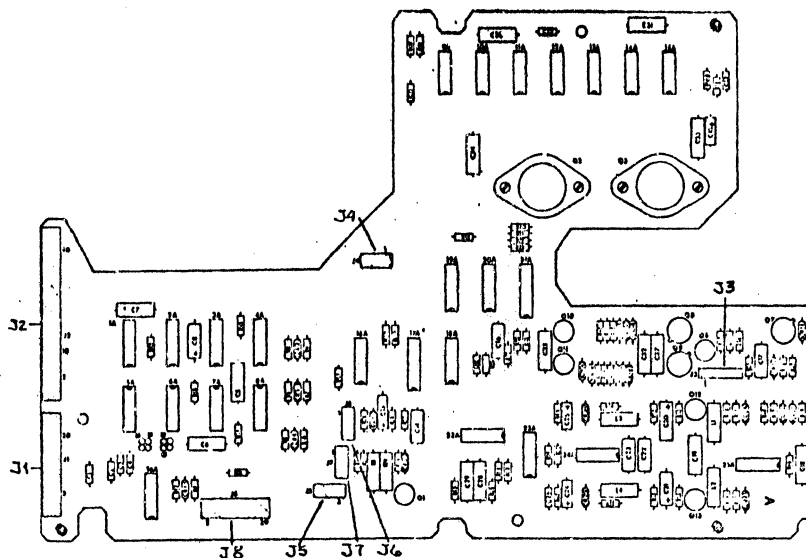

Figure 5-1. Interconnecting Cable Location
- Unplug read/write cable from J3 on back of module board (Figure 5.1)